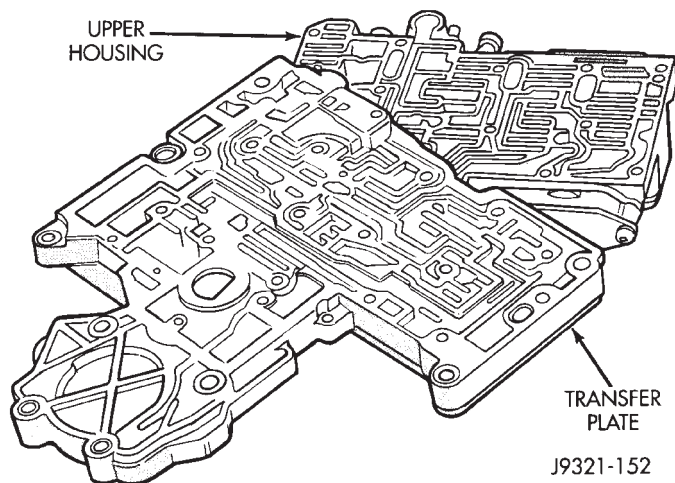

Fig. 115 Removing Transfer Plate From Upper Housing
(28) Remove transfer plate from upper housing (Fig. 115).